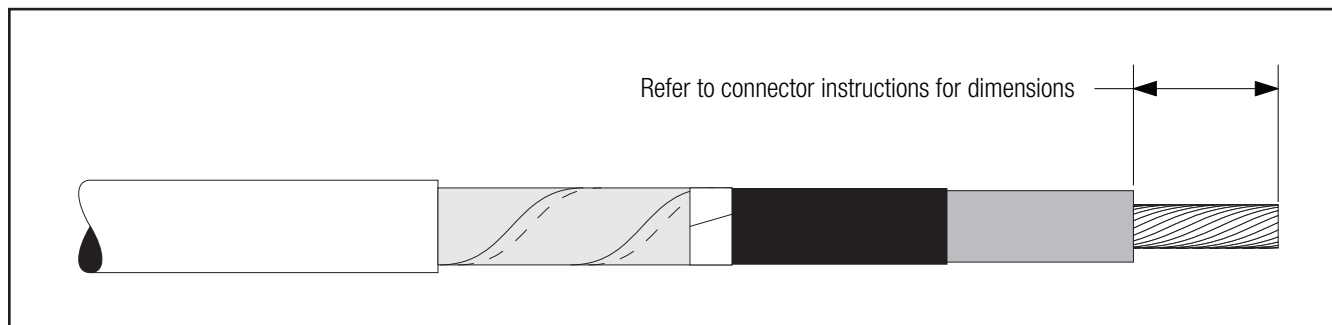

Figure 12
- 4.1** If using a 3M™ Shearbolt Connector QCI 350-750, refer to the instructions included with the connector for insulation cut-back dimension. Insulation removal length shall not exceed 3 3/4" (95 mm) from conductor end (Figure 12).